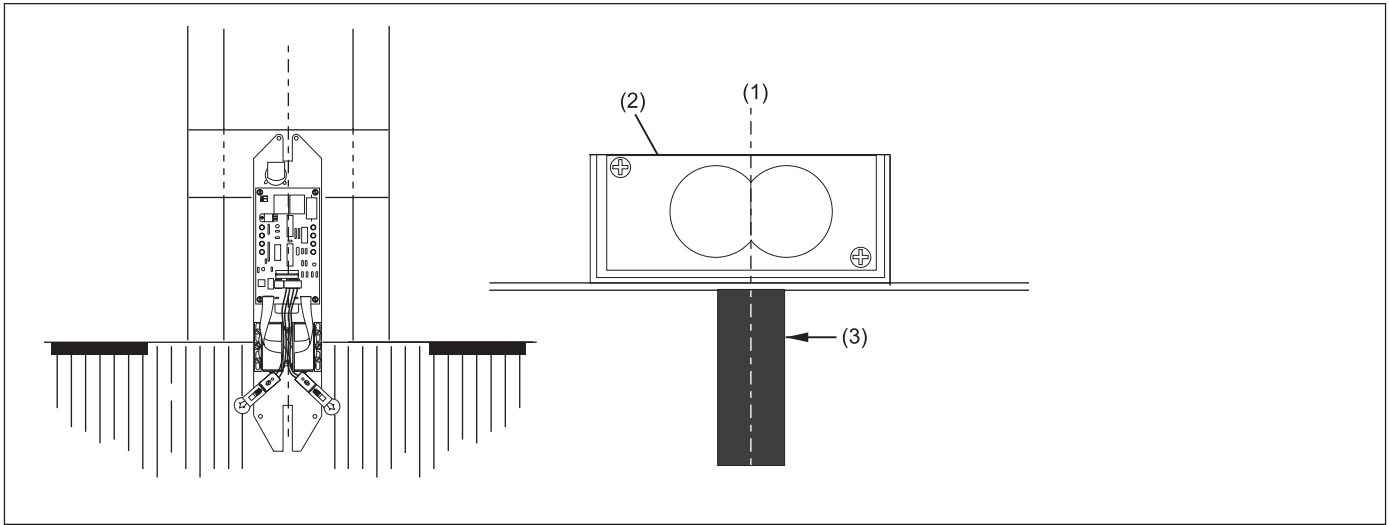

Figure 9.
- Position the Tel-E-Foul unit with the center of the optical head lenses on the center of the foul line and the unit centered on the ball return. Refer to *Figure 9*.